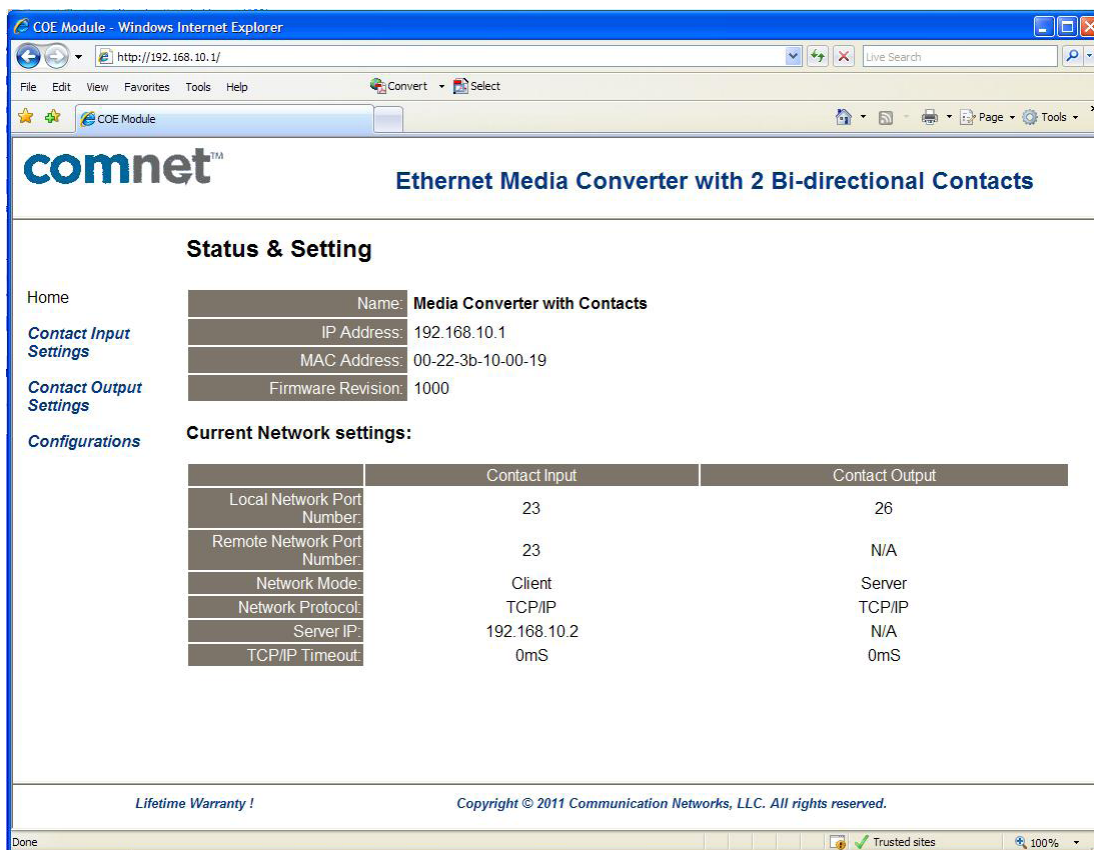

Figure 5 - CNFE2MC2C[/M] Home Page
- » The default User Name and Password are both **admin**. Log in to the Media Converter Home Page (Figure 5) as shown.